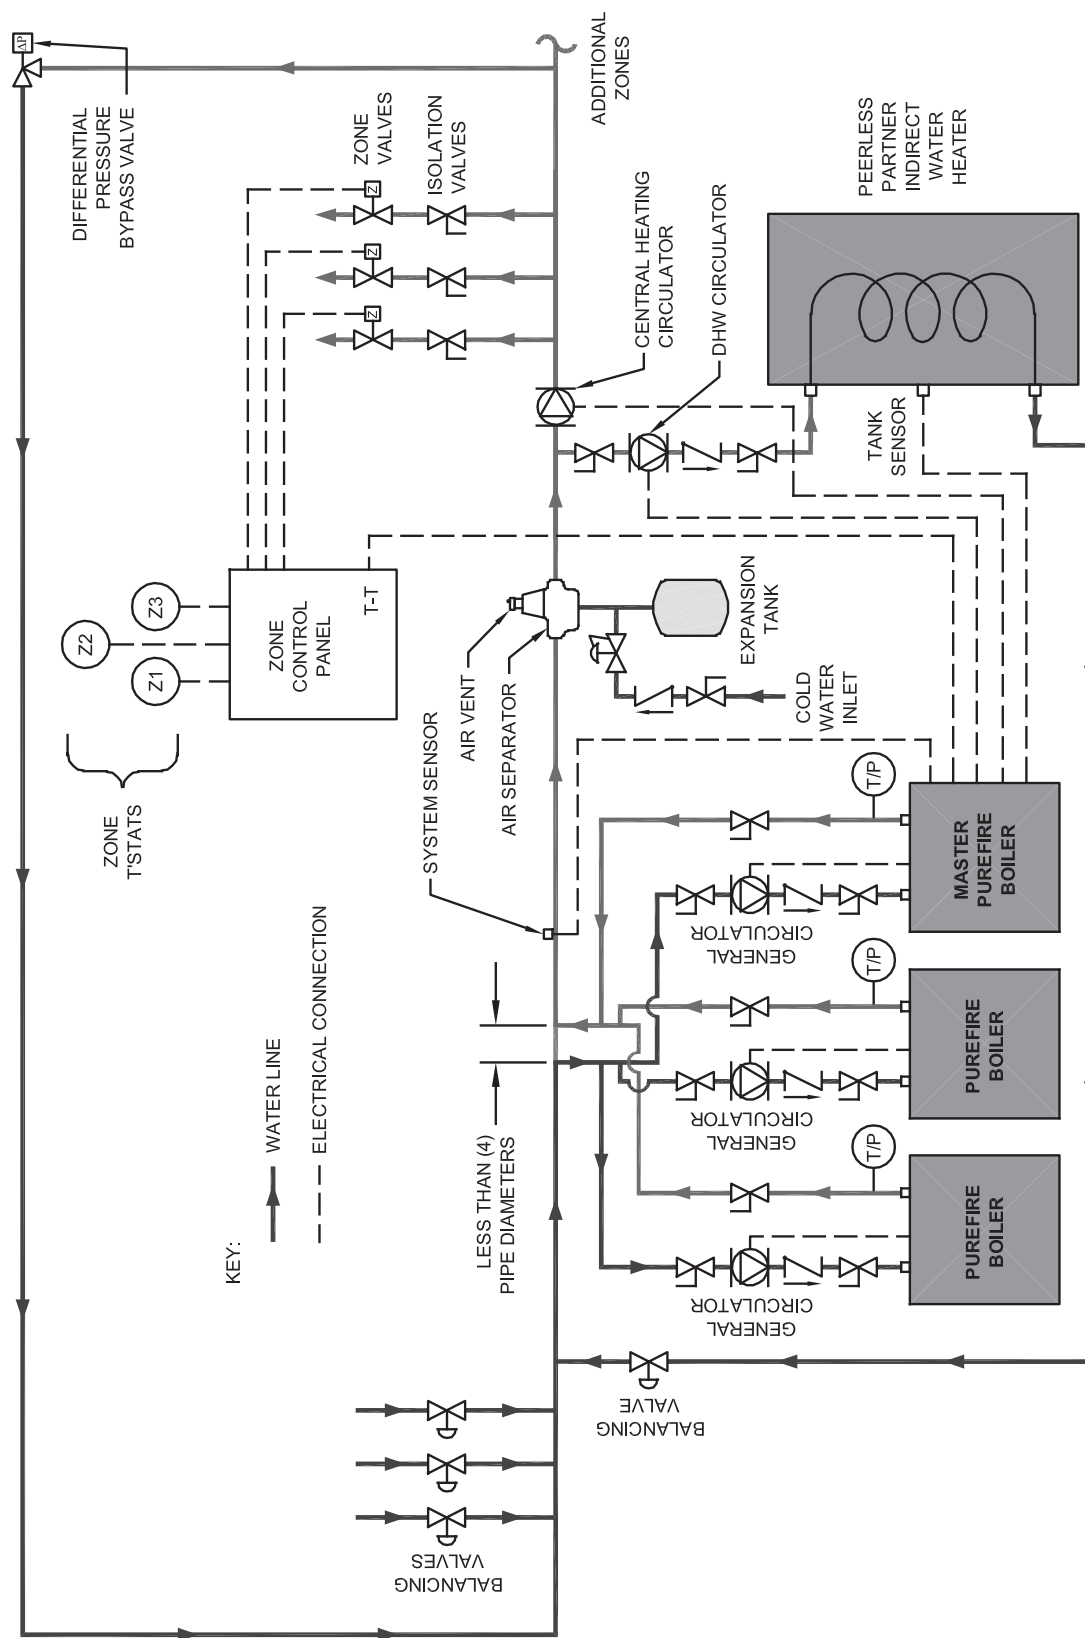

Figure 8.4: Multiple Boiler (Cascade) Piping / Electrical Connections for Systems with Zone Valves
- Figure 8.4 shows a typical system which uses a CH circulator, a DHW circulator and zone valves to distribute the heating load to the building.